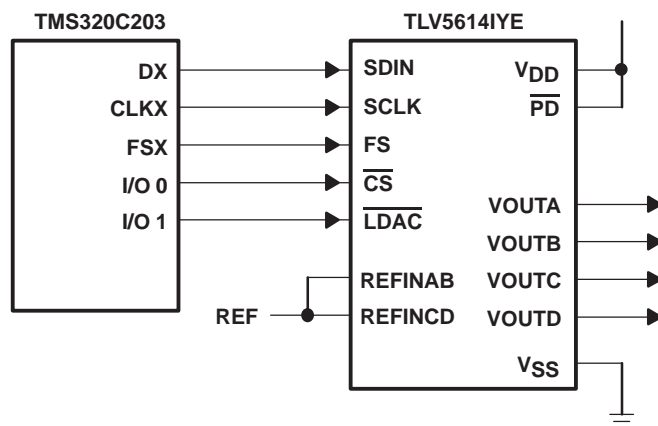

Figure 18. TLV5614IYE Interfaced With TMS320C203
Figure 18 shows an example of how to connect the TLV5614IYE to a TMS320C203 DSP. The serial port is configured in burst mode, with FSX generated by the TMS320C203 to provide the frame sync (FS) input to the TLV5614IYE. Data is transmitted on the DX line, with the serial clock input on the CLKX line. The general-purpose input/output port bits IO0 and IO1 are used to generate the chip select (\overline{CS}) and DAC latch update (\overline{LDAC}) inputs to the TLV5614IYE. The active low power down (\overline{PD}) is pulled high all the time to ensure the DACs are enabled.